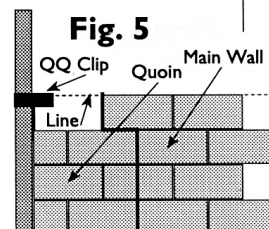

Fig. 5
- (a) Run in the main wall leaving the quoin bricks off! (See fig. 5)